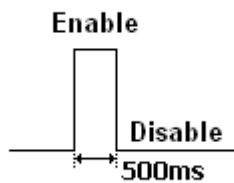
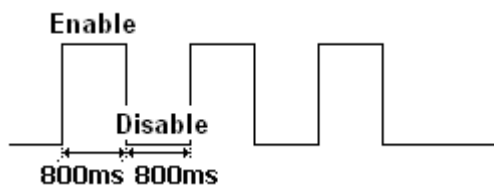
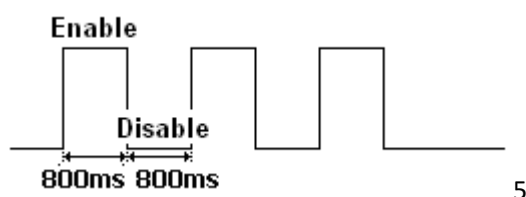

Figure 2: Wave Shape 2
Figure 3: Wave Shape 3
Figure 4: Wave Shape 4
- ✧ <Duration>: Please refer to **Figure 1**, **Figure 2**, **Figure 3** and **Figure 4**. Unit: 100ms.
- ✧ <Toggle Times>: Please refer to **Figure 1**, **Figure 2**, **Figure 3** and **Figure 4**.